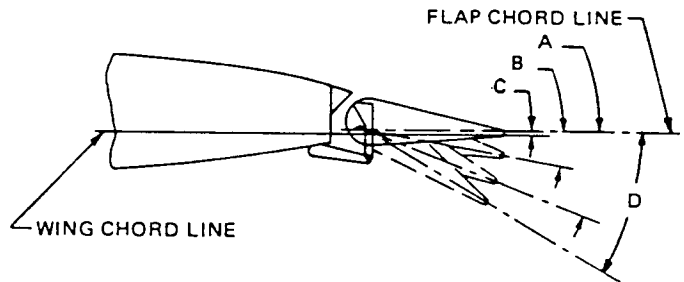

Figure 27-22. Flap Rigging
6. Set flap control cable tension (handle next to floor, 0 degrees) as given in figure 27-22 at turnbuckle attached to lower end of flap handle in floor tunnel. To do this and if not done previously, remove flap handle cover and enough tunnel carpet to remove tunnel cover just aft of handle. Adjust and resafety turnbuckle.
11. Check flap for full down travel to degrees required in figure 27-22. If travel is not acceptable, readjust torque tube stop screw in or out as required. After readjusting screw, it will be necessary to repeat steps 4 through 10.